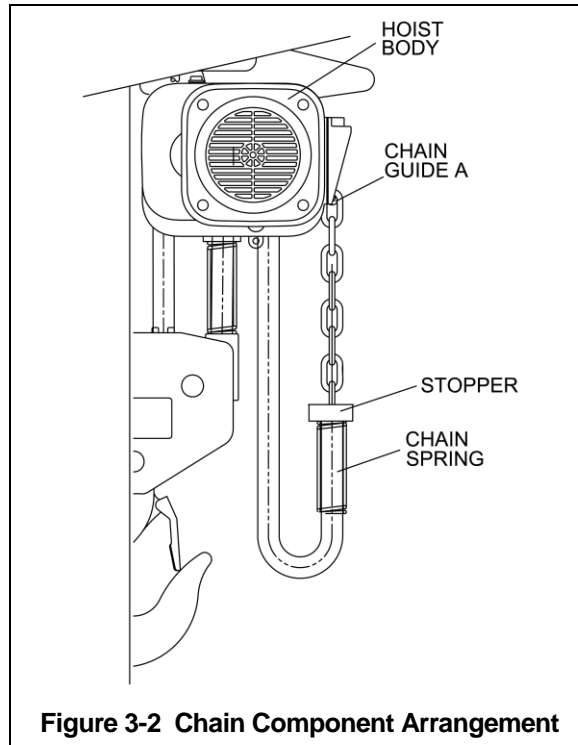

Figure 3-2 Chain Component Arrangement
- 3.2.1 The quantity and location of the chain components including chain springs and stoppers depends on the hoist model and capacity. Never operate the hoist with incorrect, missing or damaged chain components. Refer to the hoist's nameplate, Table 3-2, and Figure 3-2 and ensure that all chain components are in the correct location and properly installed.
- 3.2.2 When the hoist is used without a chain container, the free end of the chain is attached to the hoist body as shown in Figure 3-2. Connect the "no load" end of the chain to Chain Guide A and the pre-installed socket bolt and lock nut. Make sure the chain remains free of twists and the chain Stopper is installed on the correct link. Refer to Table 3-2 for proper placement of Stopper.